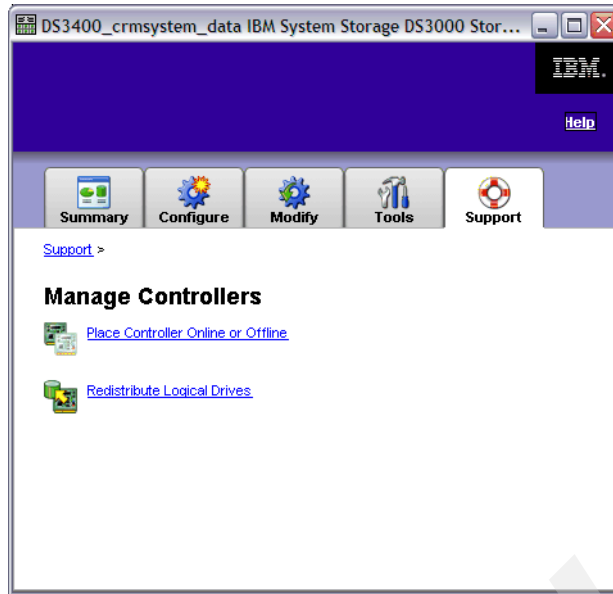
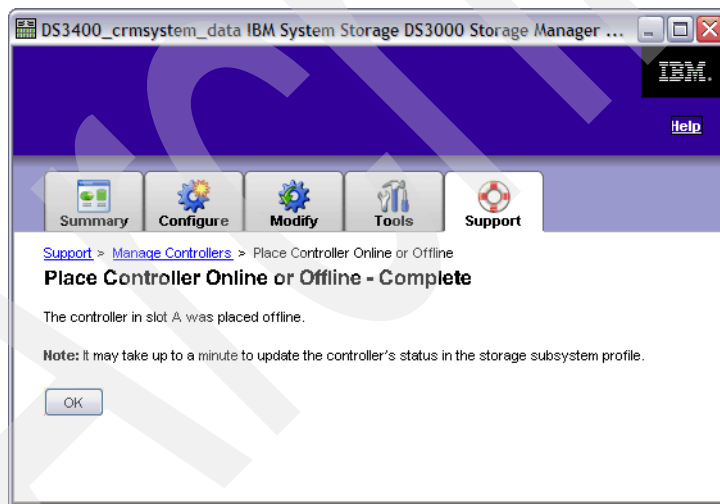
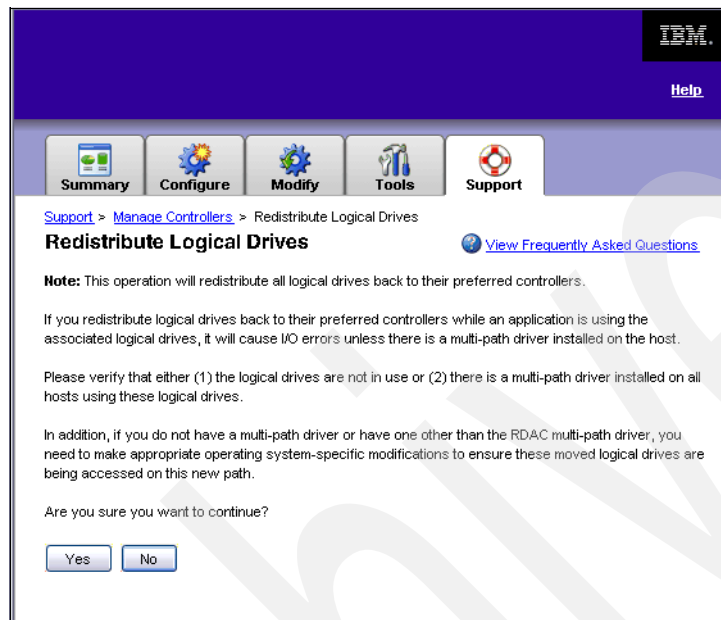

Figure 14-39 Manage Controllers
Figure 14-42 Place Controller Online or Offline - Complete
Figure 14-43 Redistribute Logical Drives
Click the **Manage Controllers** link in the Support tab in Figure 14-1 on page 300 to open the Manage Controllers window (Figure 14-39 on page 331).
3. In our example, Controller A is now set offline. Figure 14-42 appears when the operation completes. Click **OK** to return to the Manage Controllers window (Figure 14-39 on page 331).
1. Click **Redistribute Logical Drives** in the Manage Controllers window (Figure 14-39 on page 331) to start. The window shown in Figure 14-43 appears.
4. Click **OK** to return to the Manage Controllers window (Figure 14-39 on page 331).